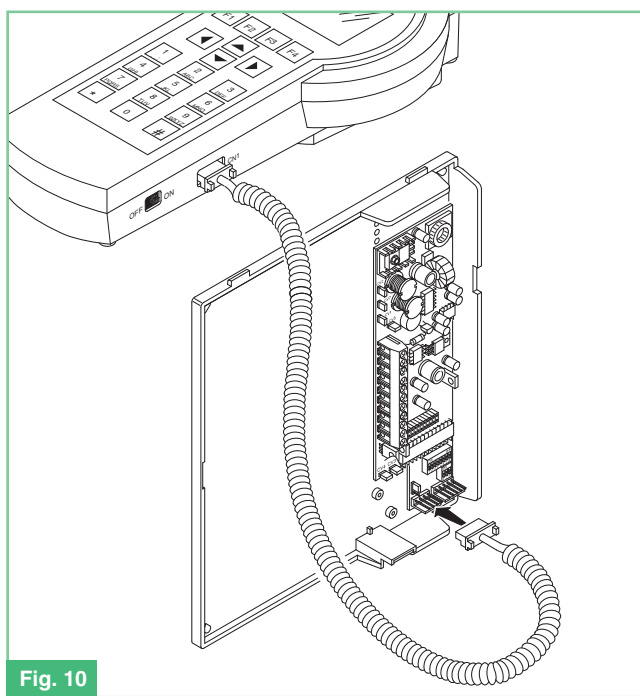

Fig. 10
3. Connect the other end of the programming cable to the polarised connector on the bracket as shown in figures 10, 11, 12 and 13.